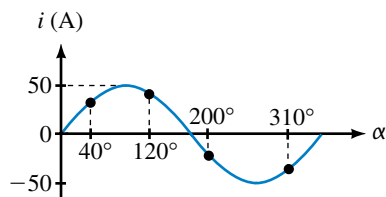

FIGURE 15–82
18. For the sinusoidal waveform of Figure 15–82,